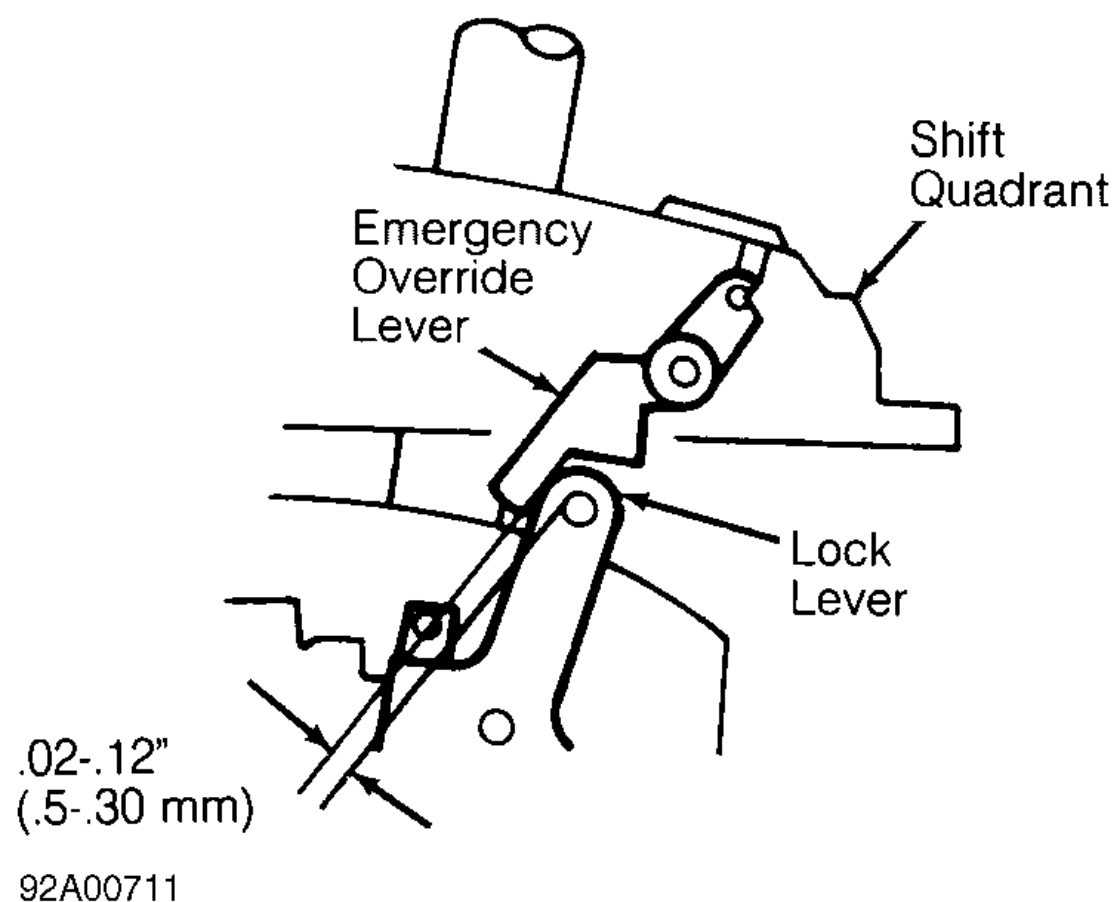

Fig. 4: Checking Lock Lever Clearance
2. Install quadrant and remove alignment pin. Ensure clearance between lock lever and emergency override lever is correct. See Fig. 4. Install lock nut and shift lever knob. Tighten lock nut to 11-15 ft. lbs. (15-20 N.m). Install console.